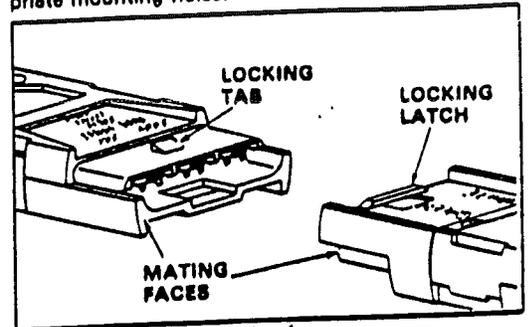

Fig. 4
1. Orient the splices so the mating ends align with each other as shown in Figure 4.